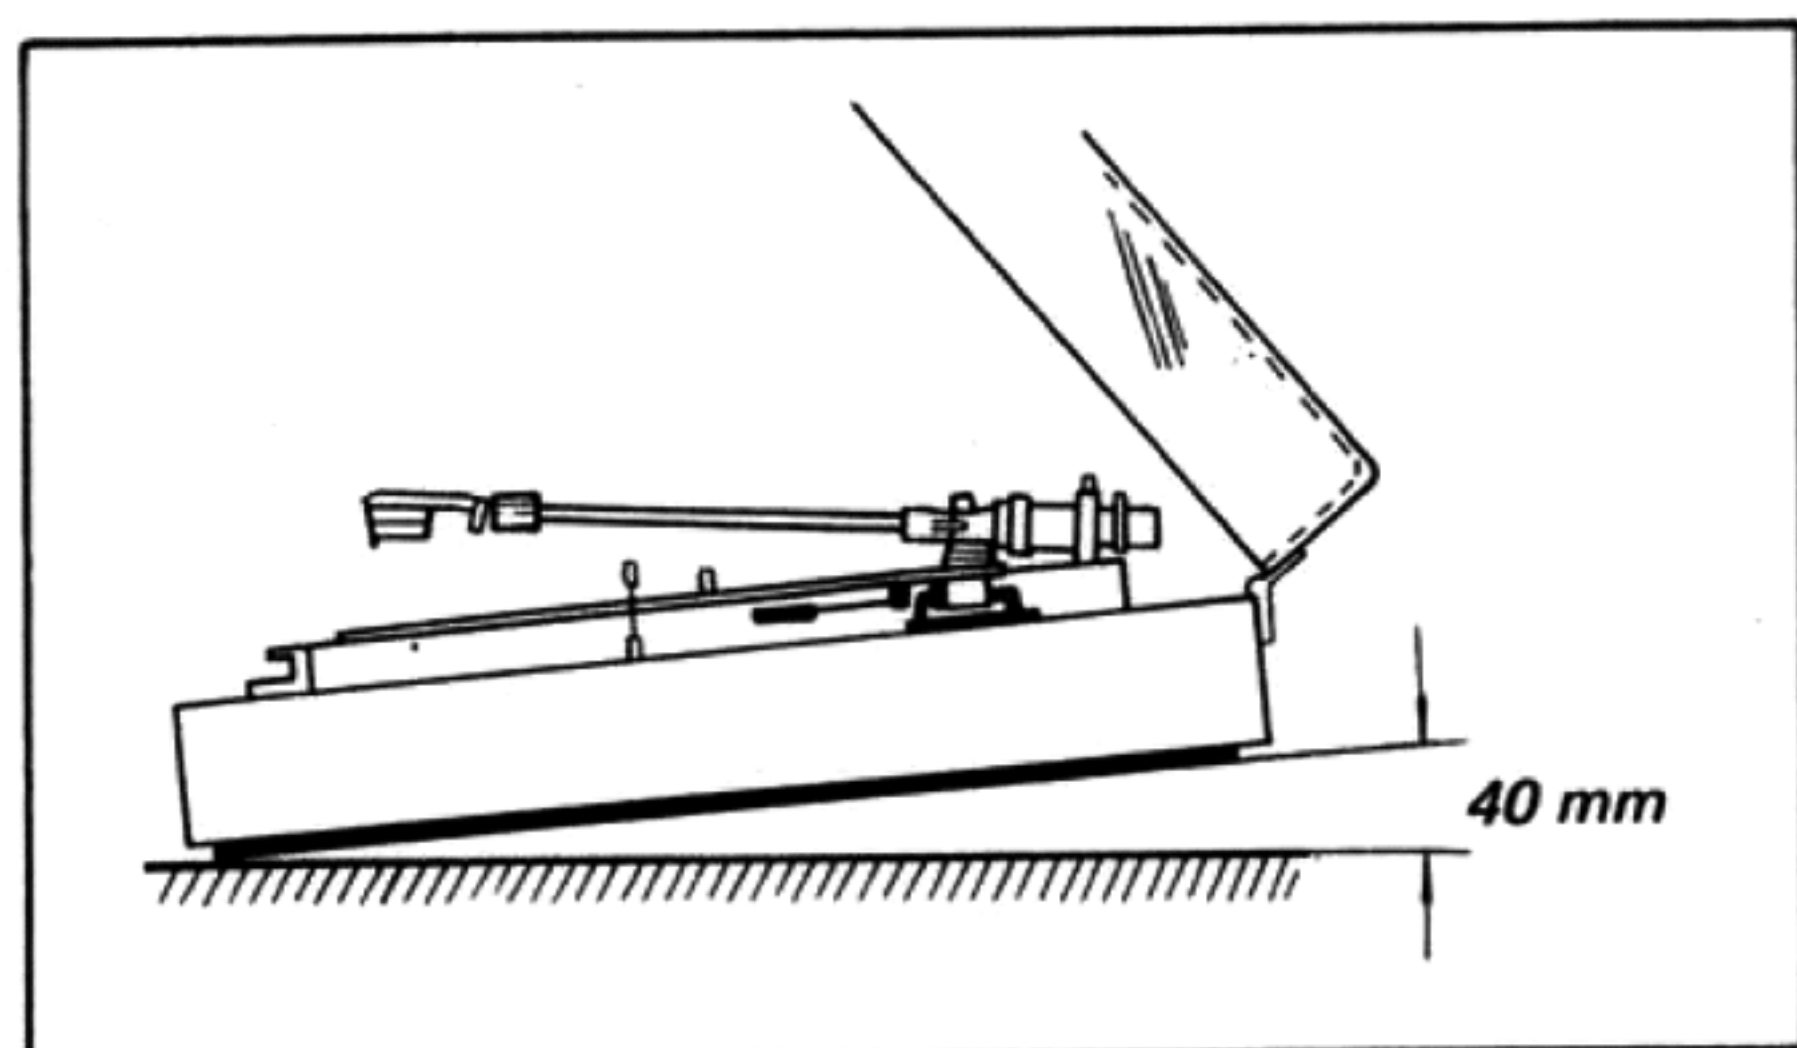

Fig. 3-4. Lateral balance adjustment
4. Slide the lateral balance weight towards the same direction as the tonearm movement until lateral balance is obtained (See Fig. 3-4.)